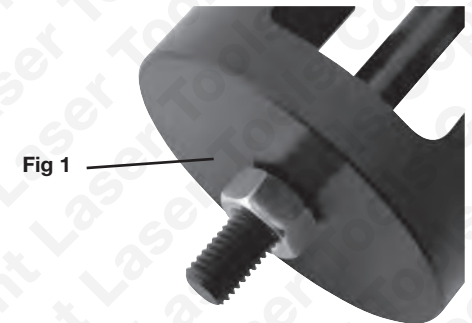

Fig 1
1. Assemble the press tool as shown in **Fig.1** and force the bush out.